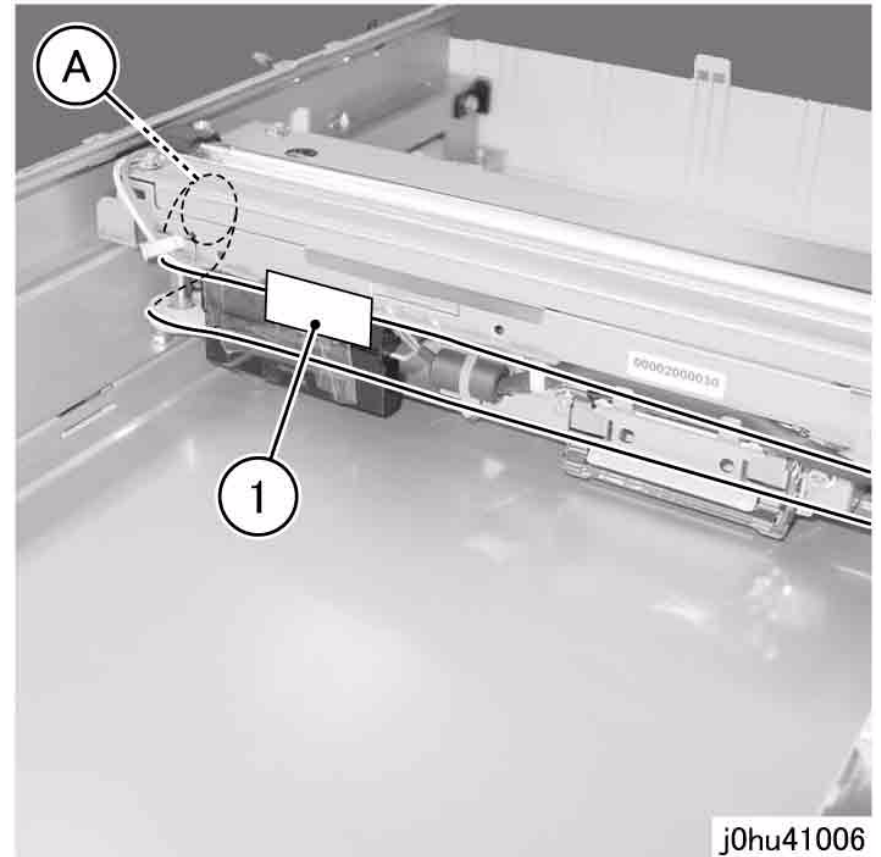

Figure 6 Secure Disconnected Black Carriage Cable
8. Use pieces of tape to secure the Carriage Cable (black) that was disconnected in step 7 so that it does not get separated from the pulley of the IIT Carriage (Figure 6).
- (A) Pulley